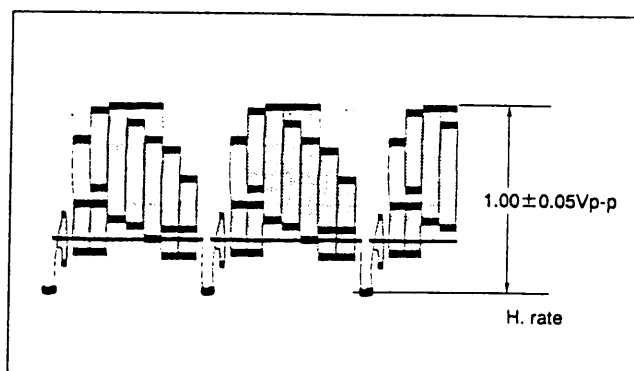

Fig.3-3-7 PB Y level
- (1) Connect an oscilloscope to JA501- pin 19(VIDEO OUT).
- (2) Set EVR mode by pressing "K" button of the presetting unit more than 2 seconds.
- (3) Set "A : 11" pressing 1 numeric key twice of the remote controller.
- (4) Record and playback a colour bar signal.
- (5) Adjust TV PROG "-" or "+" button for 1.00  $\pm$  0.05Vp-p as shown in Fig.3-3-7.
- (6) Set normal VCR mode by pressing "K" button of the pre-setting unit again so adjustment data is memorized.